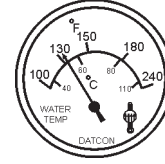

Figure 45. Coolant Temperature Gauge
9. The **coolant temperature gauge** (Figure 45) will indicate the coolant temperature. Under normal operating conditions the coolant temperature should be between 167°~203°F (75°~95°C) (**Green Zone**).